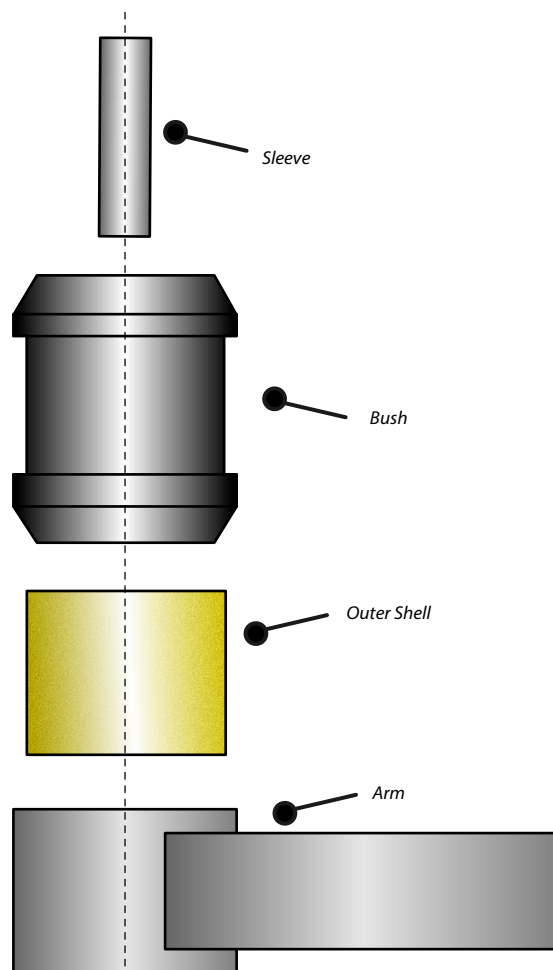

Figure 1
2. Press in the outer shell from the top of the arm as shown in figure 1. Ensure the shell is pressed in square and that the top of the shell is pressed flush against the top of the arm
4. Press the bush into the bore of the outer shell as shown in figure 1.